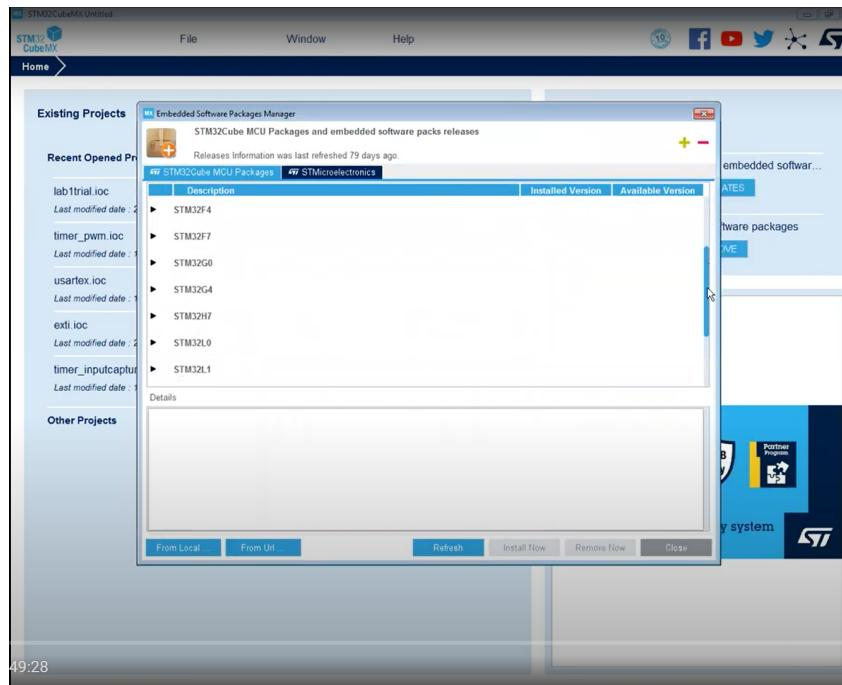

Figure 3
2. According to the microcontroller we have, the relevant package is selected and installed (Figure 3).